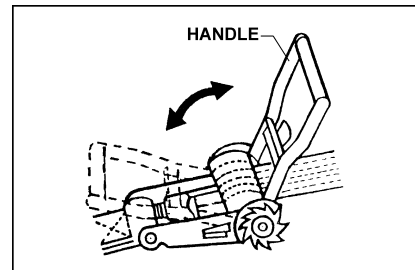

FIGURE 2
2. Pull handle up and down by hand only to tighten strap (Fig. 2), making sure handle moves far enough to engage ratchet wheel each time. Ratchet pawl must remain tight against ratchet wheel. Do not use "cheater bar" on ratchet handle.